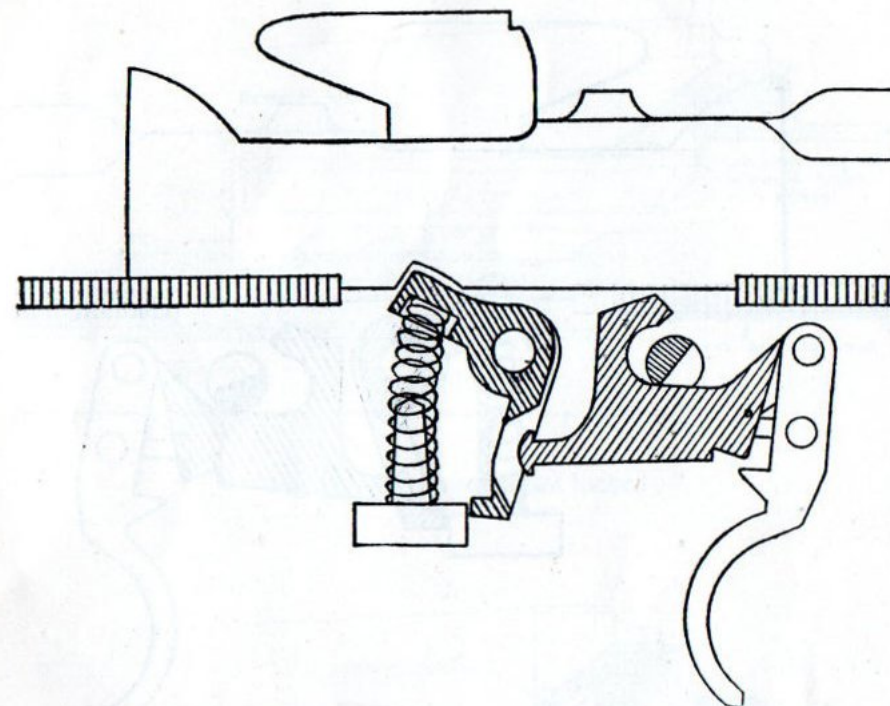

Fig 29.—The trigger pressed with the change lever at " S "
- (a) When the change lever is at " S ", the shallow bevel in its stem allows the tripping lever to rise high enough to stop either of its hooks from touching the sear when you press the trigger (see Fig 29).